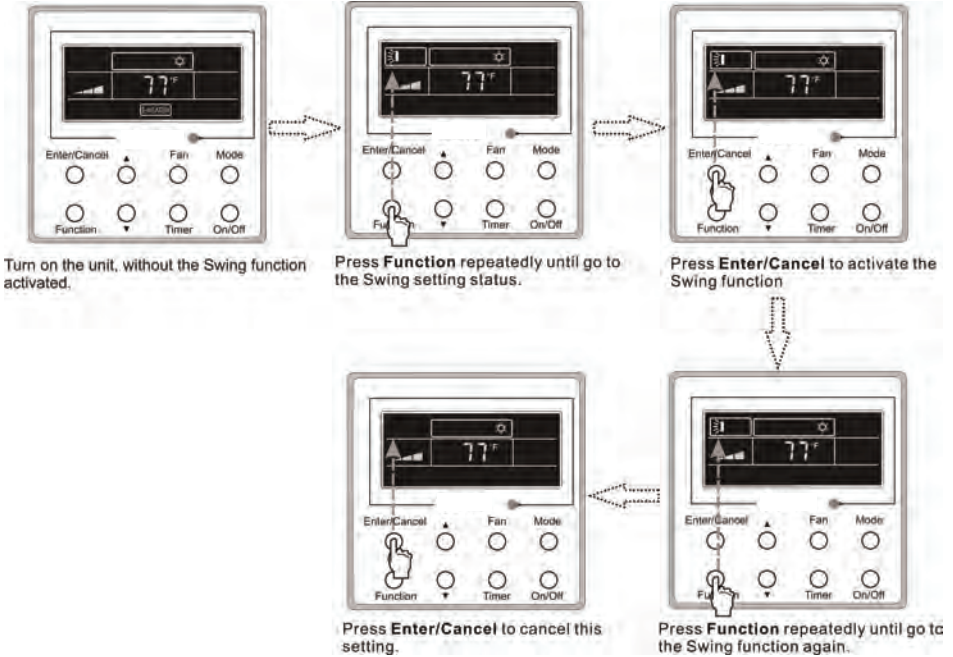

Fig.3.6.1 Swing Setting
**Swing Off:** When the Swing function is on, press **Function** to enter the Swing setting interface,with  blinking. After that, press **Enter/Cancel** to cancel this function. Swing setting is shown as Fig.3.6.1.